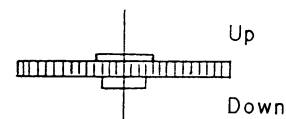
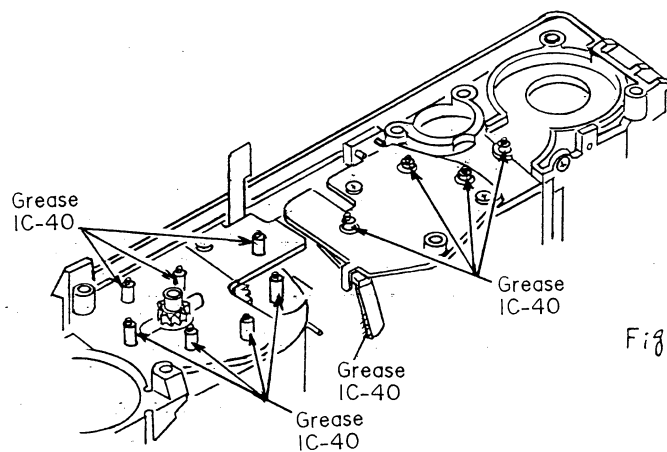

Fig 28
Fig. 29
- Do not mistake the top and bottom sides of the MM Gear (7) (3AQ62101). (See Fig.28)
- Do not mistake the MM Gear (8) (3AQ62201) (black) and MM Gear (9) (3AQ62303) (white) for each other. Confusion may result in heavy rewinding
- Apply Grease I-40 to the bearings of the Gears. (See Fig.29)